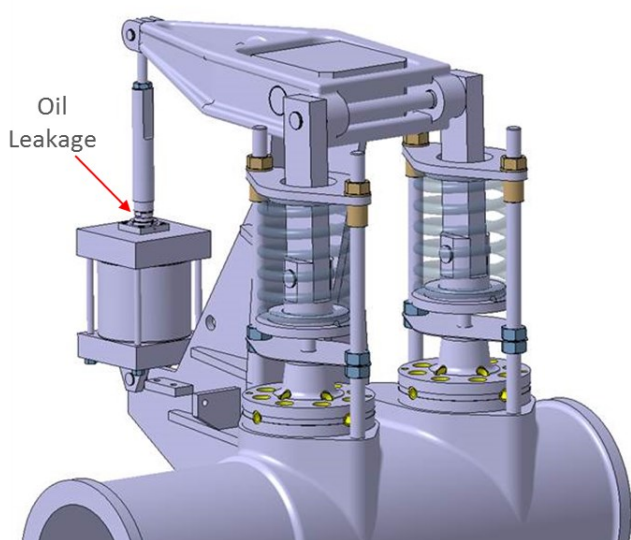

Fig. 1: Control valve block assembly (Type 1)
- Oil leakage at upper guide and seal bushing of HP valves actuators (Fig. 1)